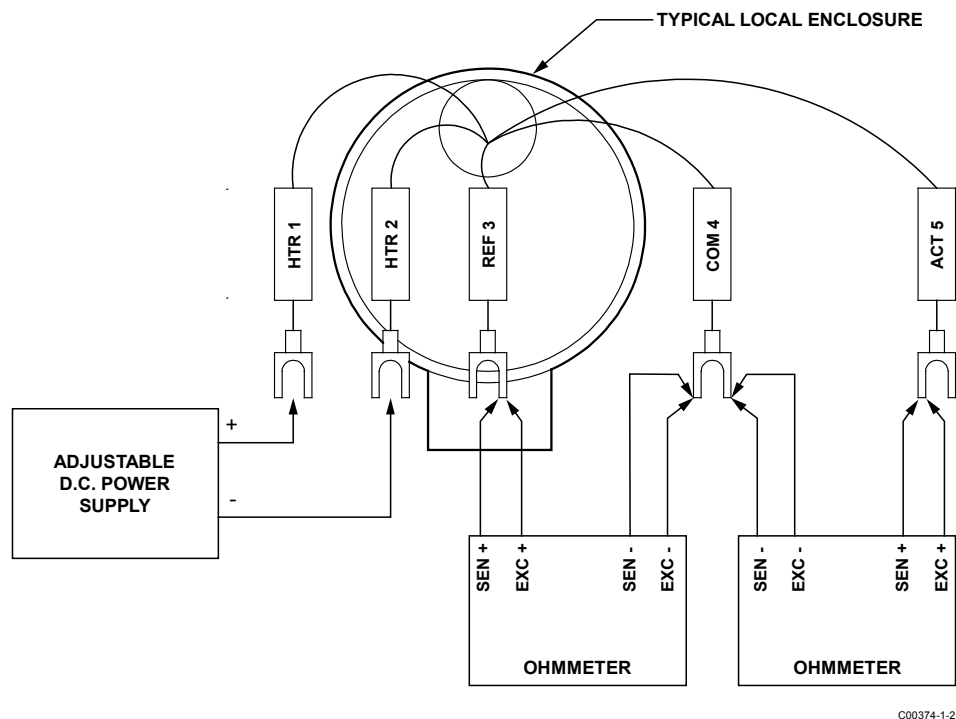

Figure 22 – Sensor Element Calibration Connections
4. Connect the DMMs and the power supply to the sensor element as shown in Figure 22 below.
7. Record the resistance values of the sensor elements and calculate the resistance differential (DR). If DR does not exceed the maximum DR of 280 ohms then proceed with the calibration. If the DR is above 280 ohms use the next lower heater wattage setting and let the instrument stabilize. Recheck the DR.